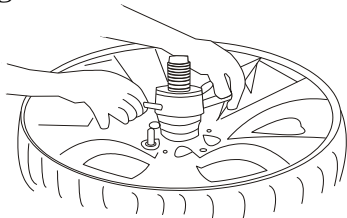

Fig 6
1. Take out the valve core to deflate the tyre. Roll the tyre onto the wheel lift 14. Depress the lift pedal 13 to raise the tire up to the full height by the wheel life 14 until the lift cradle goes to 90 degrees, and then slip the tire over the turntable. Depress the lift pedal 13 to lower the wheel lift to the lowest position and align a lug hole on the rim with the alignment pin on the turntable so that the pin goes into the lug hole. Install the quick locking nut to the central post. Tighten it securely. (Fig 6)